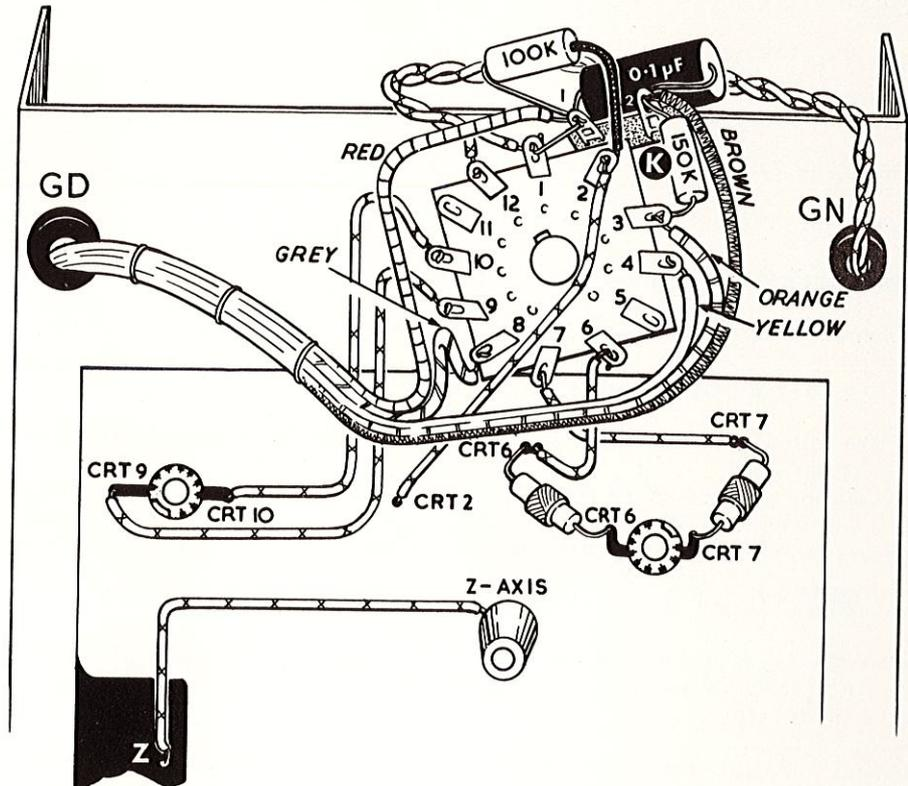

FIGURE 15
() Position the tube with pin 1 in the vertical position as shown in Figure 15.
NOTE: The pins on the CRT are numbered in a clockwise direction starting from the keyway. See Figure 15.
- () Using one 4BA x 3/8" binderhead screw, lockwasher and nut, mount the 2-way tagstrip K to the hole on the CRT base next to pin 2 as shown in the detail on Figure 15.
Refer to Figure 15 for the following steps:
- () Connect a 0.1 µF 250V tubular capacitor from K tag 2 (NS) through K tag 1 (NS) to CRT tag 1 (NS).
- () Connect a 100 KΩ resistor (BROWN, BLACK, YELLOW) from K tag 1 (NS) to CRT tag 2 (NS). Use 3/4" of sleeving on one end as shown in Figure 15.
- () Using 1/2" of sleeving on each end, connect a 150 KΩ resistor (BROWN, GREEN, YELLOW) from K tag 2 (NS) to CRT tag 3 (NS).
- () Route the end of the cable assembly emerging from grommet GD as shown in Figure 15.